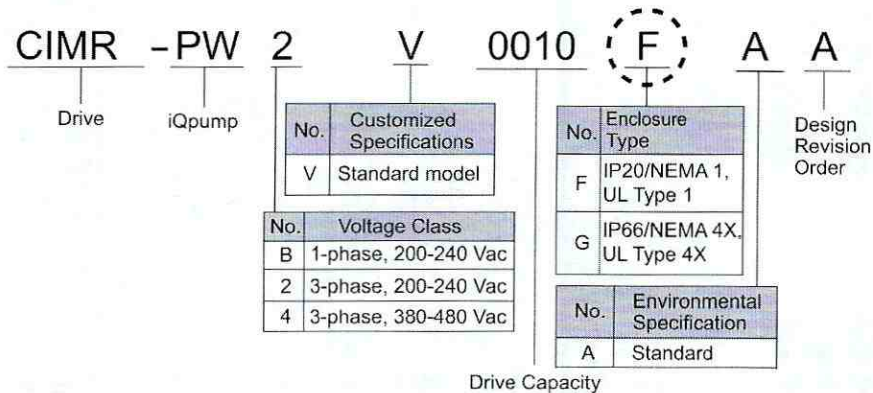

Figure 1.4 Drive Enclosure Type Identification
5.4 Identify the drive enclosure type. Use *Figure 1.4* to find the digit within the model number that identifies the enclosure type.